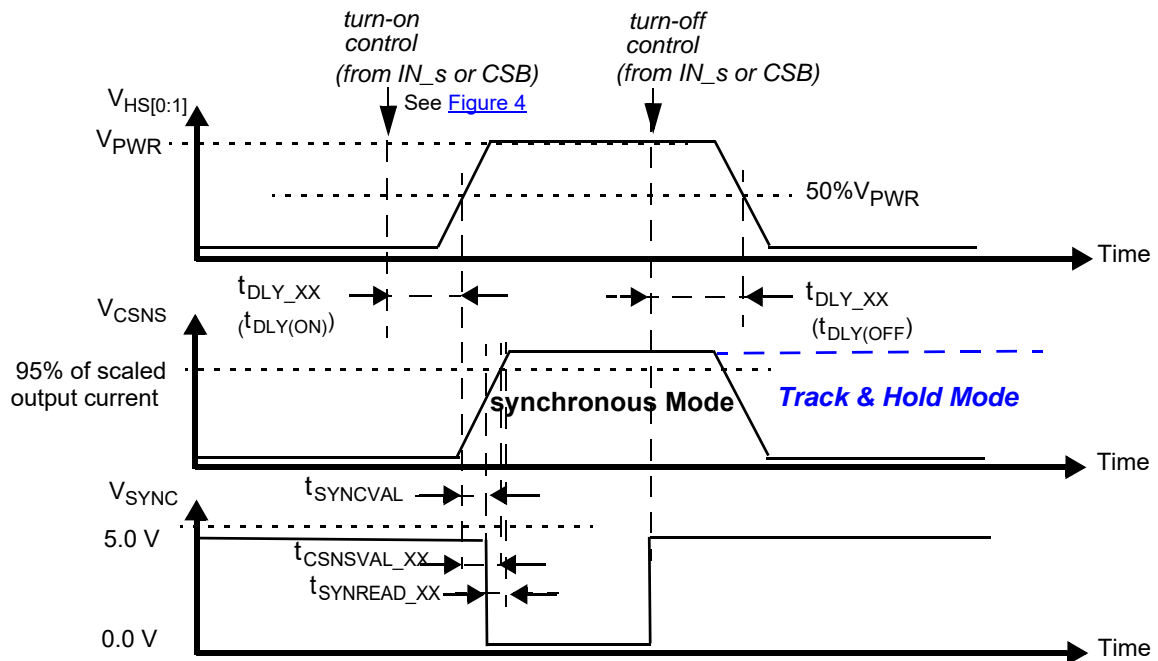

Figure 9. Synchronous and track-and-hold current sensing modes: associated delay and settling time
29. Time required to switch off the channel after detection of overtemperature (OT), overcurrent (OC), SC or UV error (time measured between start of the negative edge on the FSB pin and the falling edge on the output voltage until $V(\text{HS}[0:1]) = 50\%$ of V_{PWR}).
30. Settling time ($= t_{\text{CSNSVAL_XX}}$), SYNC output signal delay ($= t_{\text{SYNCVAL_XX}}$) and Read-out delay ($= t_{\text{SYNREAD_XX}}$) are defined for a stepped load current ($100\text{ mA} < I(\text{LOAD}) < I_{\text{OCLX A FOR CSNS_RATIO_S}} = 1$, AND $300\text{ mA} < I(\text{LOAD}) < I_{\text{OCLX A_0 FOR CSNS_RATIO_S}} = 0$). See Figure 9 and Output current monitoring \(CSNS\).
The CS pin allows independent current monitoring of channel 0 or channel 1 up to the steady-state overcurrent threshold. It can also be used to sense the device temperature. The different functions are selected by setting bits CSNS1_en and CSNS0_en to the appropriate value (Table 23). When the CSNS pin is sensed during switch-off in the (optional) Track & Hold mode (see Figure 9), it outputs the scaled value of the load current as it was just before turn-Off. When several devices share the same pull-down resistor, the CSNS pins of devices the current of which is not monitored must be tri-stated. This is accomplished by setting CSNS0_en = 0 and CSNS1_en = 0 in the GCR register (Table 10). Settling time ($t_{CSNSVAL_XX}$) is defined as the time between the instant at the middle of the output voltage's rising edge ($HS[0:1] = 50\%$ of V_{PWR}), and the instant at which the voltage on the CSNS-pin has settled to $\pm 5.0\%$ of its final value. Anytime an overcurrent window is active, the CSNS pin is disabled (see Overcurrent detection on resistive and inductive loads). The current and temperature sensing functions are unavailable in Fail-safe mode and in Normal mode when operating without the V_{DD} supply voltage. In order to generate a voltage output, a pull-down resistor is required ($R(CSNS)=1.0\text{ k}\Omega$ typ. and $470 < R(CSNS) < 10\text{ k}$). When the current sense resistor connected to the CSNS pin is disconnected, the CSNS voltage is clamped to $V_{CL(CSNS)}$. The CSNS pin can source currents up to about 5.6 mA.
To synchronize current sensing with an external process, the SYNC signal can be connected to a digital input of an external MCU. SYNC is asserted logic low when the current sense signal is accurate and ready to be read. The current sense signal on the CSNS pin has the specified accuracy $t_{SYNREAD_XX}$ seconds after the falling edge on the SYNC pin (Figure 9) and remains valid until a rising edge is generated. The rising edge that is generated by the SYNC pin at the turn-OFF instant (internal or external) may also be used to implement synchronization with the external MCU. Parameter t_{SYNVAL_XX} is defined as the time between the instant at the middle of the output-voltage rising edge ($HS[0:1] = 50\%$ of V_{PWR}), and the instant at which the voltage on the SYNC-pin drops below 0.4 V (V_{SOL}). The SYNC pins of different devices can be connected together to save μ -controller input channels. However, in this configuration, the CSNS function of only one device should be active at a time. Otherwise, the MCU does not determine the origin of the SYNC signal. The SYNC pin is open drain and requires an external pull-up resistor to VDD.